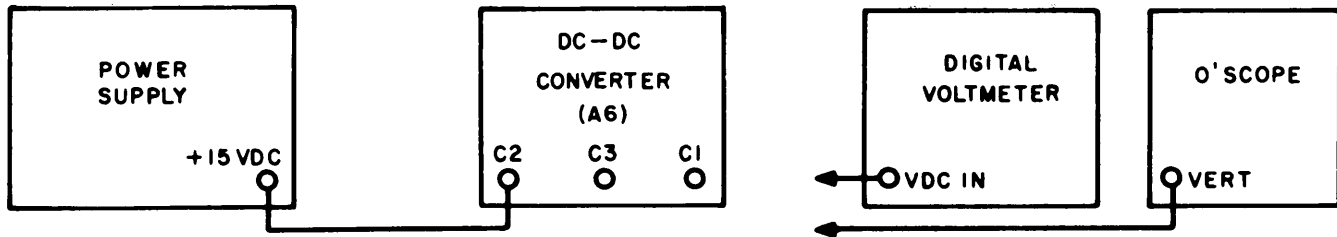

Figure 4-6. Test Setup, DC-DC Converter (A6) Alignment
(1) Construct the circuit as shown in Figure 4-6.